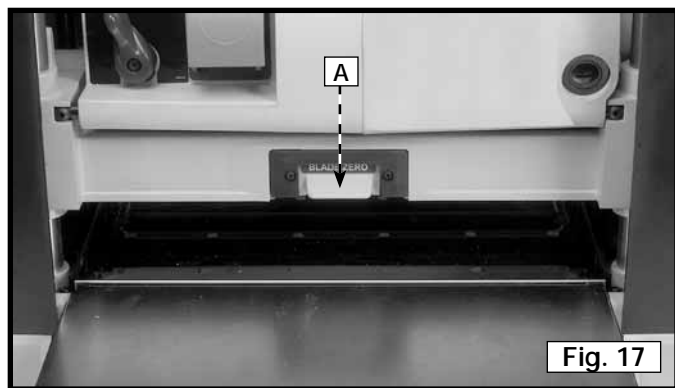

Fig. 17
1. Push down on the zero indicator (A) Fig. 17 to engage.